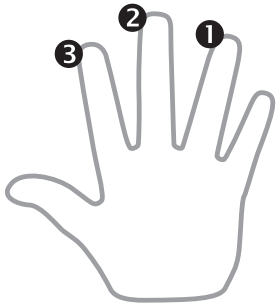

Figure 1
1. Place the sensor on the **middle** or **ring** finger (Figure 1).